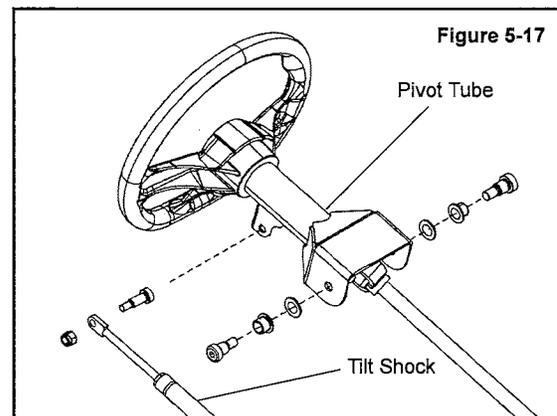

Figure 5-17
12. Install the (2) fasteners that retain the pivot tube (see Figure 5-17). Torque fasteners to specification.
13. Install the fastener retaining the upper portion of the steering wheel tilt shock to the pivot tube (see Figure 5-17). Torque fastener to specification.